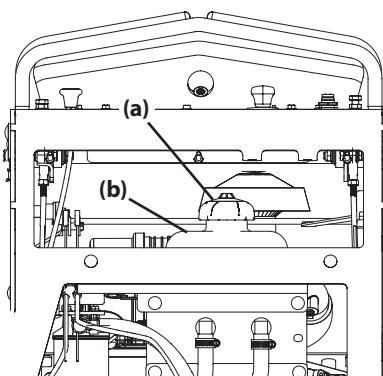

Figure 24
- Insert a funnel into the reservoir (b). See Figure 24.